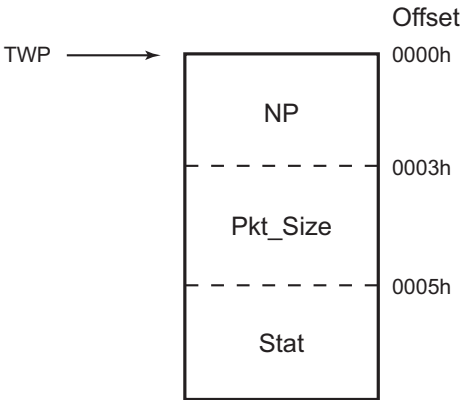

Figure 50. Descriptor Table Entries
the packet from descriptor table bytes 3 and 4. The TxDMA moves the data into the TxFIFO until the packet length counter downcounts to zero. The TxDMA then waits for Transmission Complete signal to be asserted to indicate that the packet is sent and that the Transmit status from the EMAC is valid. The TxDMA updates the descriptor table status and resets the ownership semaphore, bit 15. Finally, the Tx\_DONE\_STAT bit of the EMAC Interrupt Status Register is set to 1, the address field, DMA\_Address, is updated from the descriptor table next pointer, NP (see Figure 50). The High byte of the status is read to determine if the next packet is ready to be transmitted.
The descriptor table contains three entries: the next pointer (NP), the packet size (Pkt\_Size) and the packet status (Stat), as illustrated in Figure 50.